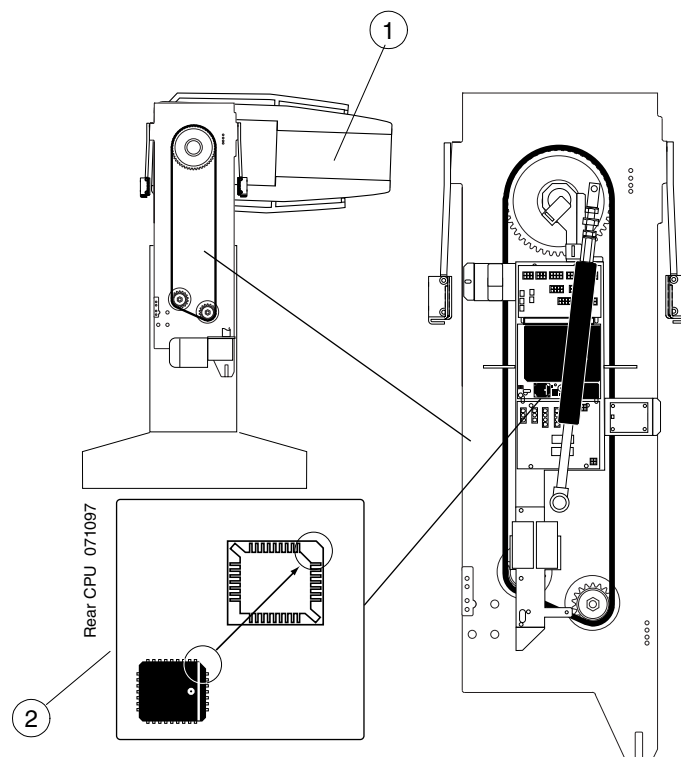

Figure H.9
- c) Drive the C-arm to -90° (Fig. H.9, 1) for easier access.
- e) Replace the rear cpu chip (Fig. H.9, 2).